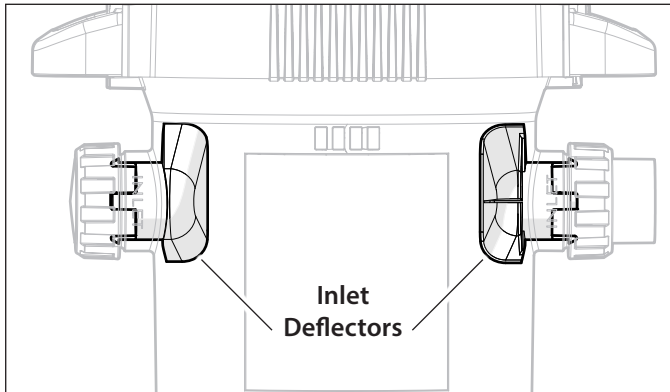

Figure 7. Water Deflectors
9. Each inlet is fitted with a water deflector. These deflectors must remain in place to prevent damage to the filter due to high-speed water flow from the pump (Figure 7).